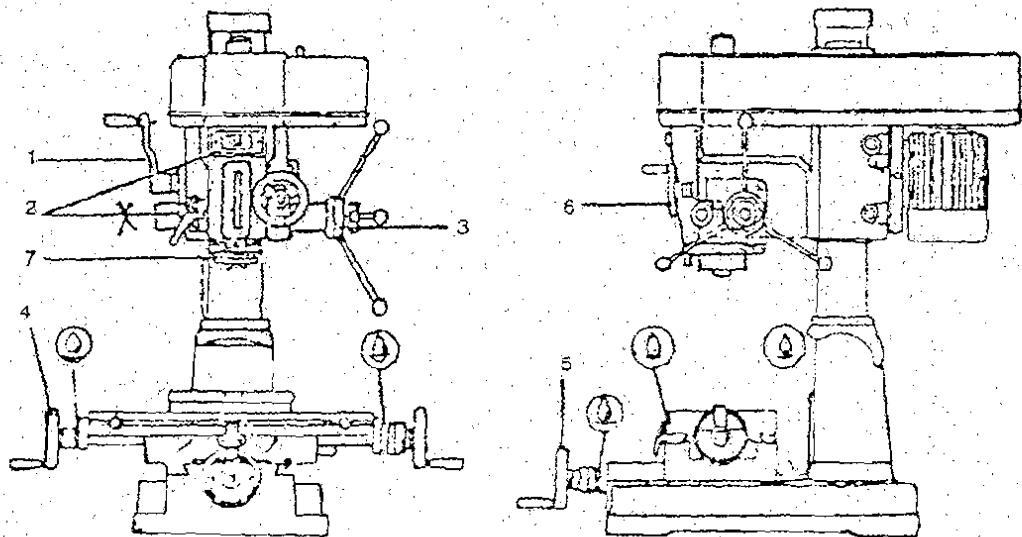

Fig. 1
- (1) Your machine has been coated with a heavy grease to protect it in shipping. This coating should be completely removed before operating the machine. Commercial degreaser, kerosene or similar solvent may be used to remove the grease from the machine, but avoid getting solvent on belts or other rubber parts.
- (2) After cleaning, coat all bright work with a light lubricant, Lubricant all points in Fig. 1 with a medium consistency machine oil.
- (3) Lubricating points as shown in arrows.
5. USE OF MAIN MACHINE PARTS (See Fig. 1)